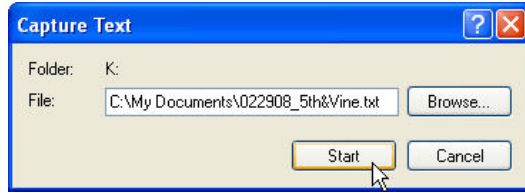

FIGURE 23
2. The '**Capture Text**' window appears see Figure 23 below. Enter a path and file name appropriate for the BBS unit. The example uses a date and intersection to designate the BBS. When finished click